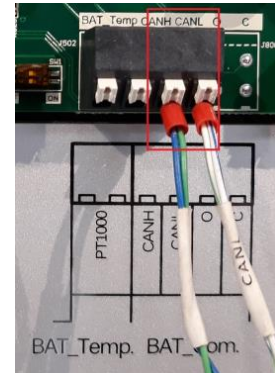

Figure 3 Insert CANH and CANL pins to SH5K+ circuit board
Step 2 Plug CANH into the CANH port and plug CANL into the CANL port of the configuration circuit board of SH5K+ / SH5K-20 (Figure 3).